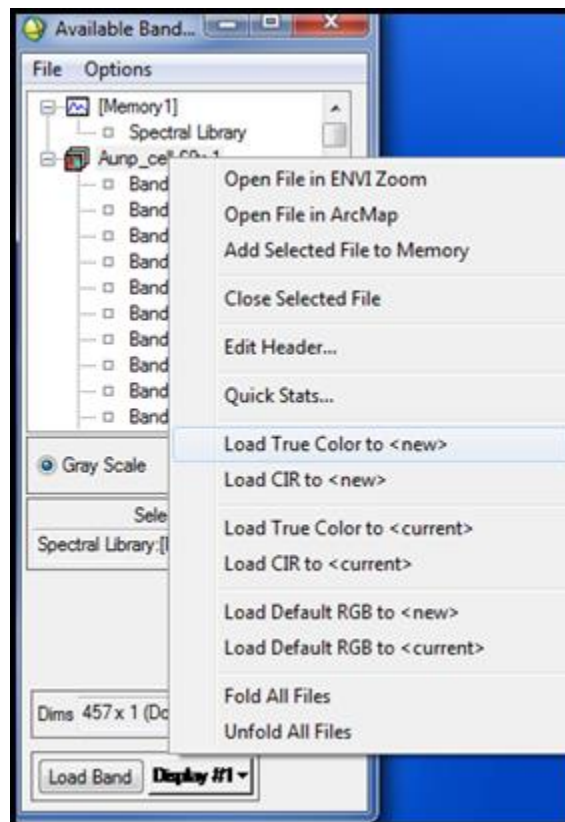

Figure 5.3a. Available Bands List
- To reload the original image (Figure 5.3a), scroll through the Available Bands List to find the original image. In this exercise the image name is **Aunp_cell-60x-1**.